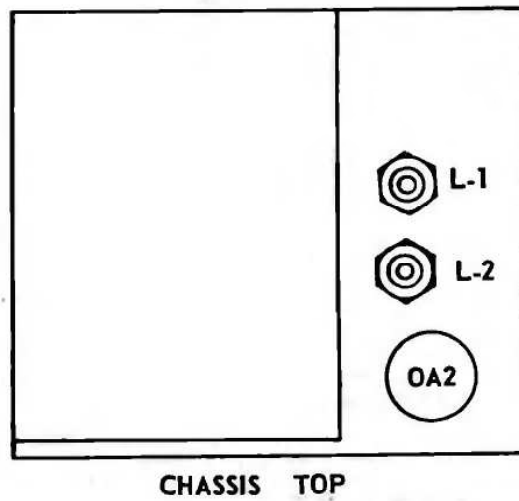

FIG. 2
- (a) There are two slug tuned coils on the VFO sub-assembly chassis as indicated in Figure 2, coil L-1 for controlling drive on 20-15-10 meters, and coil L-2 controlling drive on 160-80-40 meters. The following procedure is used in the alignment of these coils.